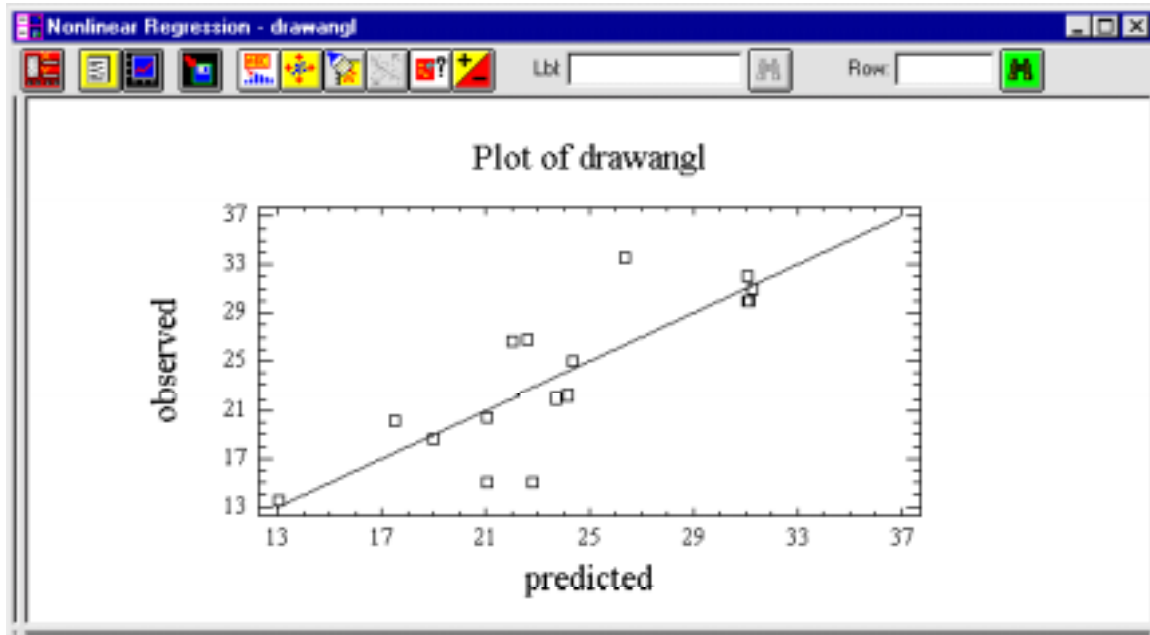

Figure 5-12. Observed versus Predicted Plot
The Observed versus Predicted option displays a plot of the observed values (Y) versus the values predicted by the fitted model (see Figure 5-12). The plot includes a line with slope equal to one. Points close to the diagonal line are those that best predict the observed data. Use the plot to determine cases in which the variance is